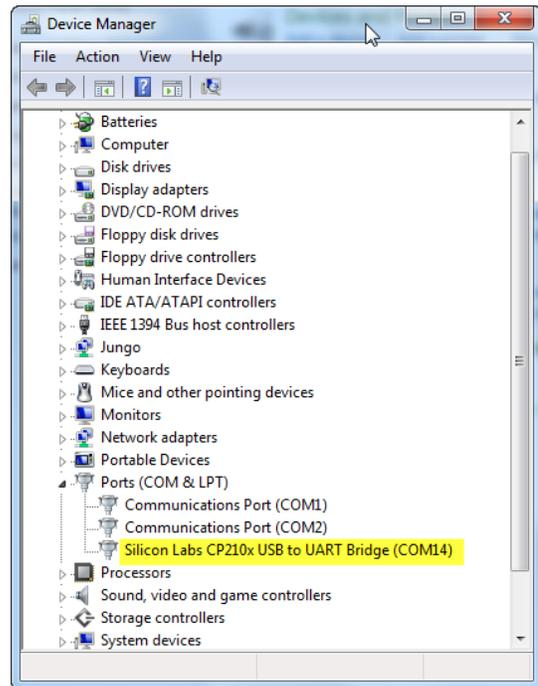

Figure 12 – Device Manager showing COM Port for A-910 Dongle
5. Locate **SILICON LABS CP210x USB to UART Bridge (COM x)** (see Figure 12).